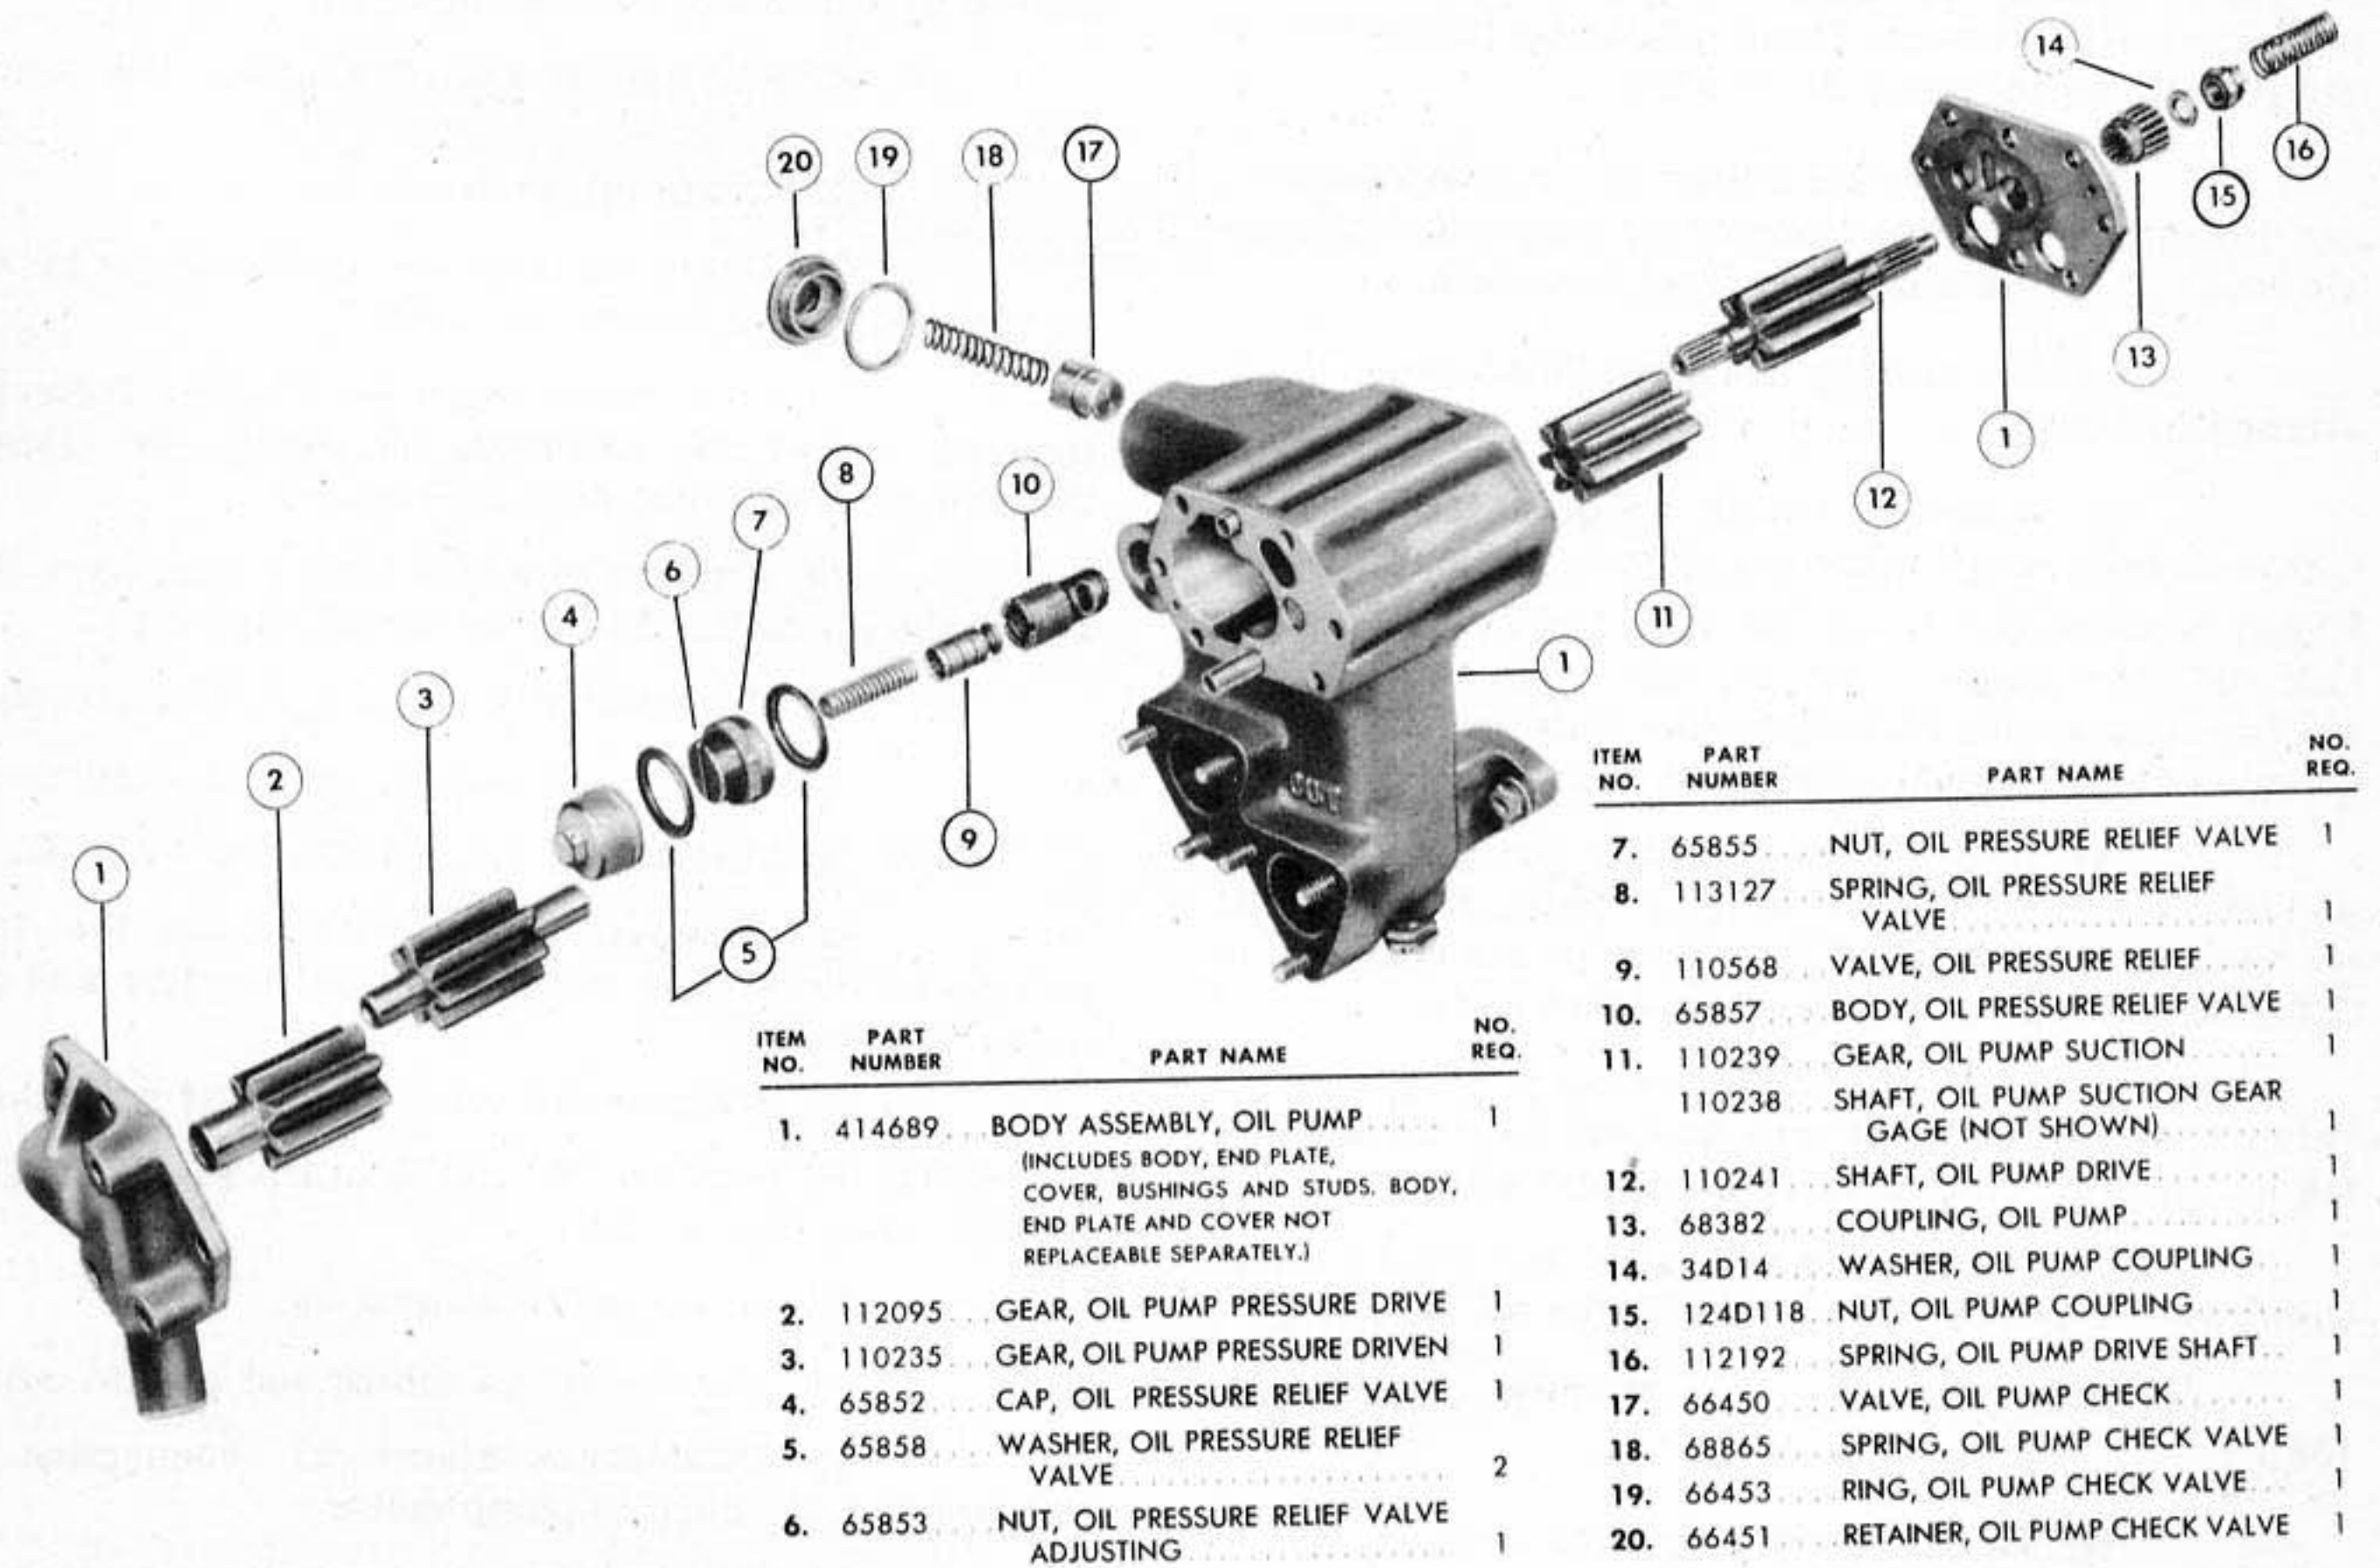

Figure 132 - EXPLODED VIEW OF ENGINE OIL PUMP
(5) DISASSEMBLY OF ENGINE OIL PUMP. (See figure 132.)